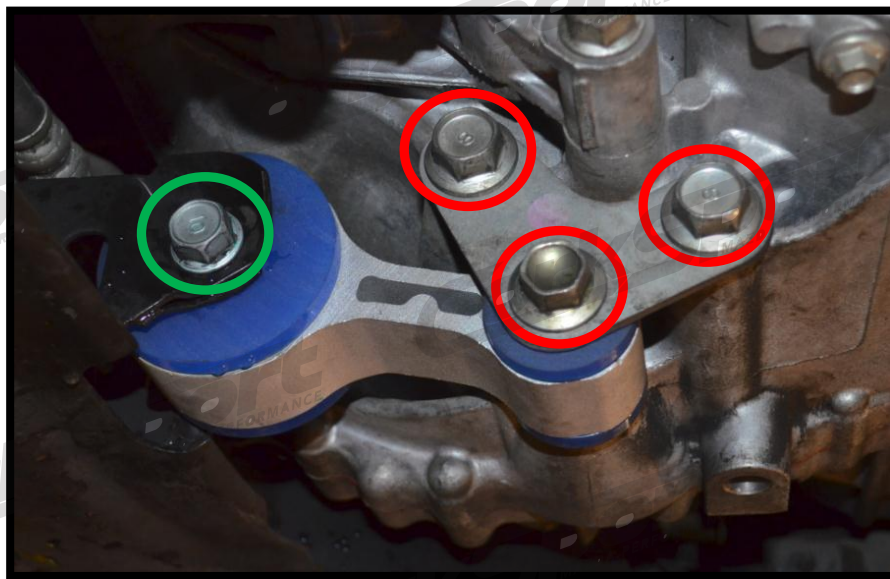

Figure 1a
b) **Locate and remove the two 19mm bolts and one 17mm bolt that sandwich the rear motor mount to the transmission** (shown circled in Red in Figure 1a). Once they are removed the bracket will come out easily.
c) **Remove the 17mm bolt holding the rear motor mount to the chassis and remove the factory engine mount** (shown circled in Green in Figure 1a).
d) **Install the CorkSport motor mount in the location the factory mount was removed.** The mount is fairly snug. Silicone spray will help to install it easily (shown in place in Figure 1a).
e) **Replace the 17mm bolt removed in step 1c and Hand tighten it** (refer to Green circle in Figure 1a).
f) **Replace the two 19mm bolts and one 17mm bolt that hold the engine mount to the transmission. Just hand tighten** (shown circled in Red in Figure 1a). This might require rocking the motor back to make the bolts line up. The engine should rock slightly to align the bolts.
g) **Torque all bolts to 54-66 ft.lbs.** (refer to Figure 1a).